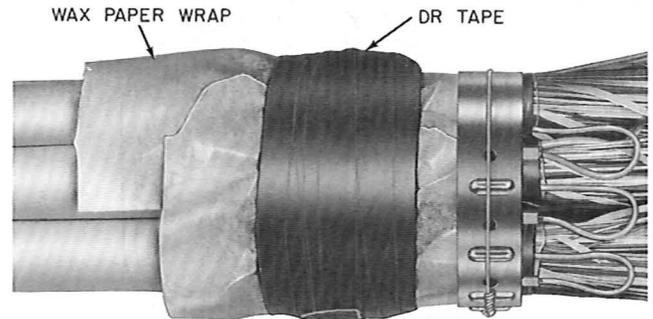

Fig. 12—DR Tape Wrap
6.03 Wrap the group with several layers of the waxed paper in which the sealing tape was packed. Tightly wrap this paper covered collar with several overlapped layers of 2-inch DR Tape (Fig. 12). This protects the sealing tape from debris during the work operation.